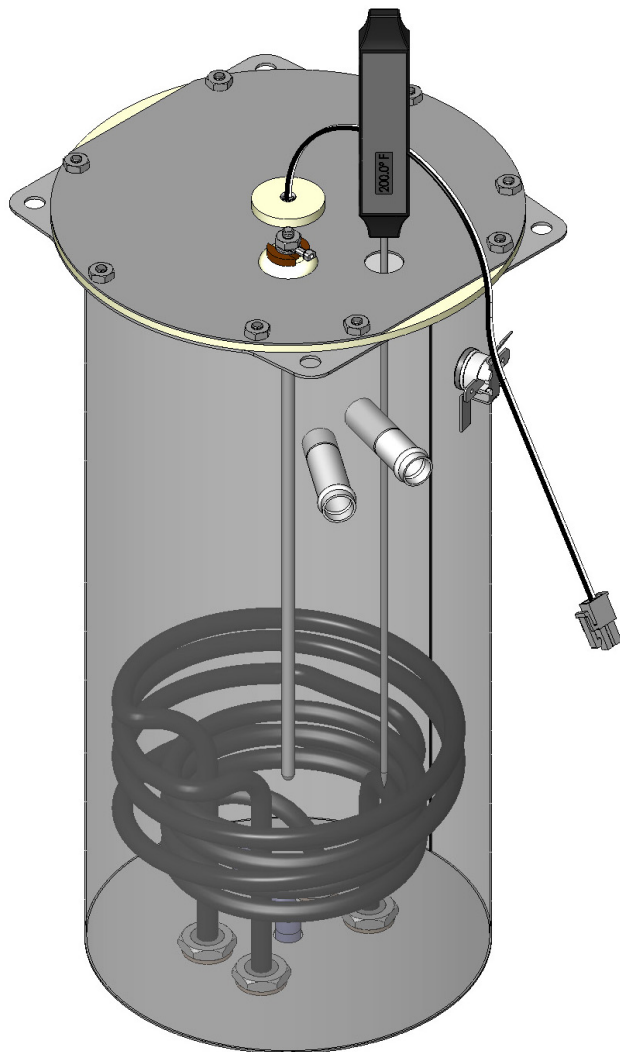

FIG. 20-1 CALIBRATE TEMP PROBE
2. Insert a digital temp probe through the exposed vent hole in tank lid to the same depth as the factory temp probe. FIG 20-1.